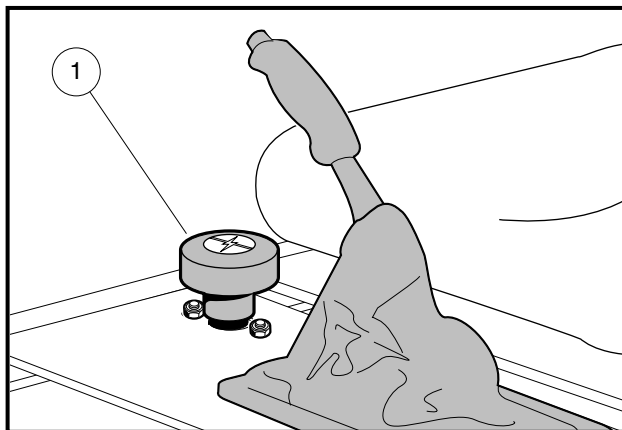

Figure 4 Emergency Stop Switch
The emergency stop is located in front of the park brake between the driver and passenger seats (**Figure 4, Page 22**). To activate, push down firmly on the button (1). To return the vehicle to operation, place Forward/Reverse handle in NEUTRAL, then pull switch out to the upright position. The switch remains in the upright position for normal vehicle operation. **See following WARNING.**